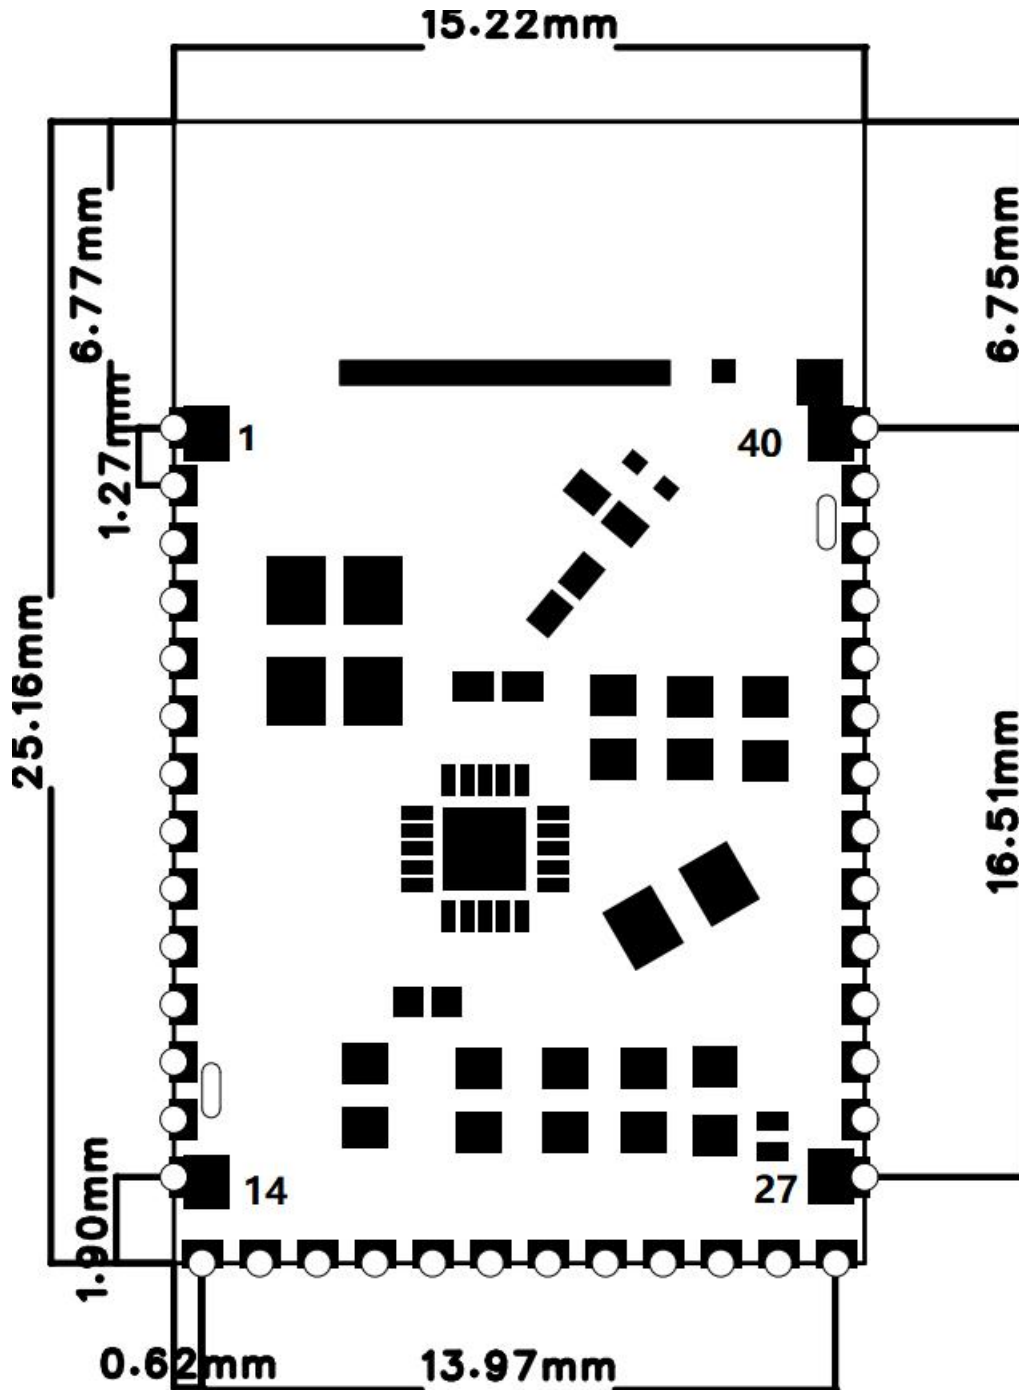

Figure 3-1
3.1 The module dimensions are shown in *Figure 3-1*.